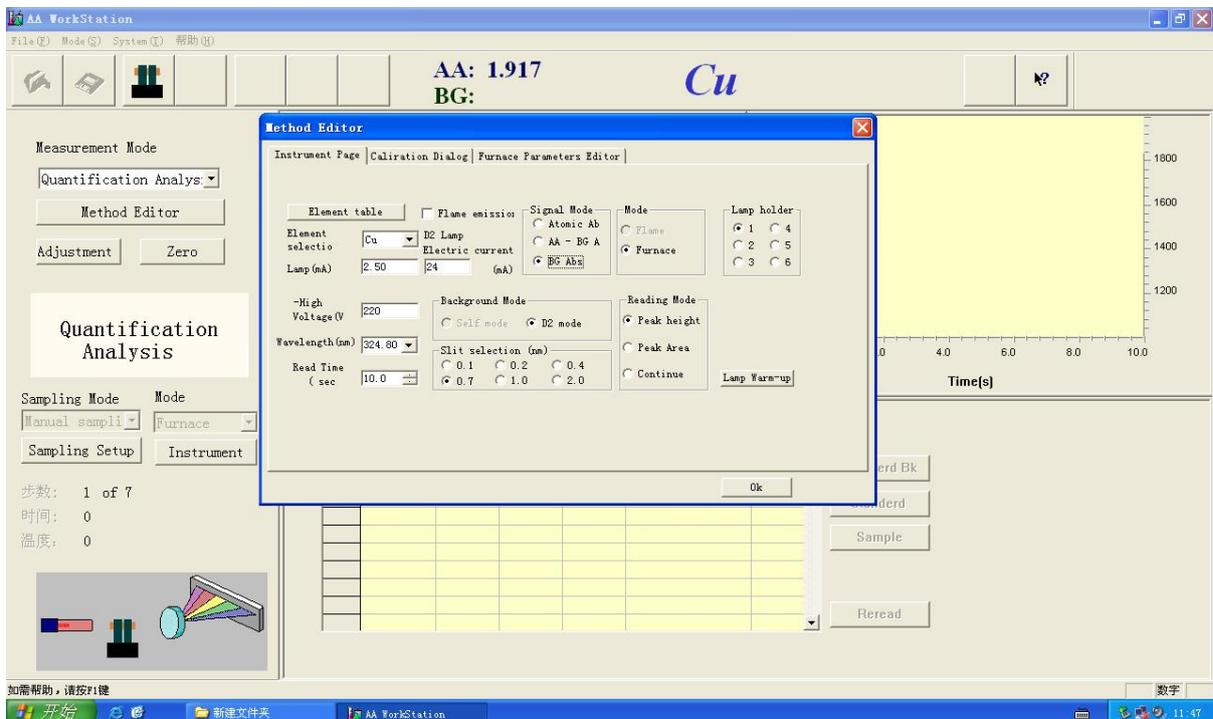

Figure 4-21
c. Select the "BG Abs", the "Flame emission" and "D2 Lamp Electric Current" are valid, "Self mode" is gray (as shown in Figure 4-21)